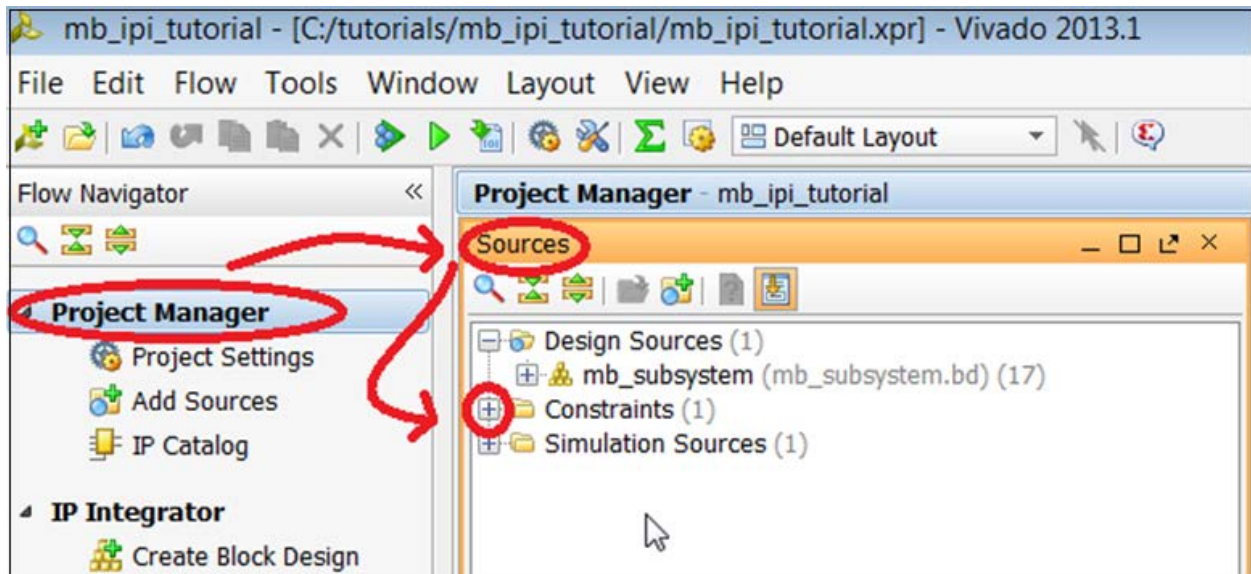

Figure 124: Project Mangager
1. In the Flow Navigator, go to the **Project Manager** (Figure 124).